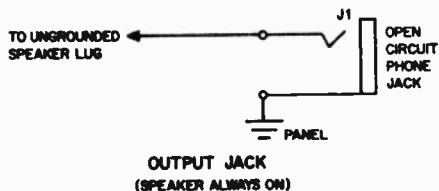
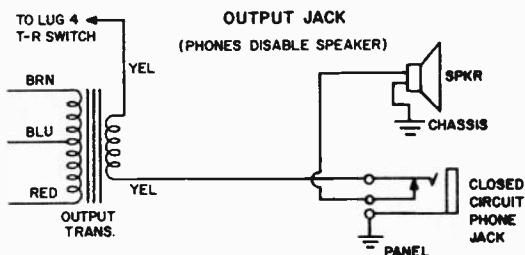

Fig. 6—The Sixer speaker will always be on if you use this circuit to add a jack for headphones.
Fig. 7—Use this circuit and the headphones will automatically turn off speaker when plugged in.
• **Headphone Jack.** If you would like to use headphones or a remote speaker add a phone jack on the front panel. The speaker will always be on if you follow Fig. 6. The phone will disable the speaker if you follow Fig. 7.